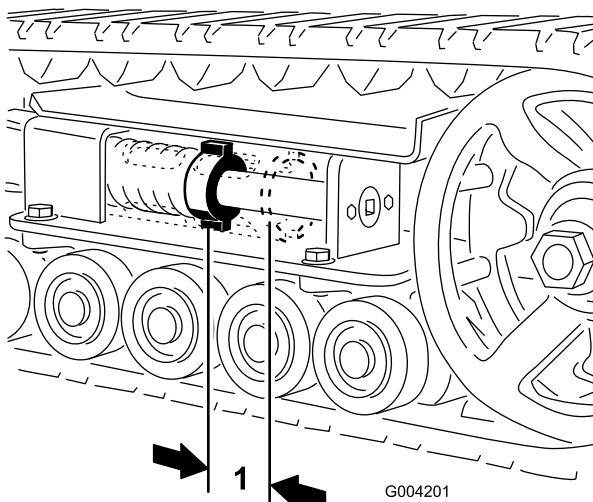

**Figure 43**
**Important:** Ensure that you fully clean the road wheels, the tension wheel, and the drive sprocket (Figure 43). The road wheels should rotate freely when clean.